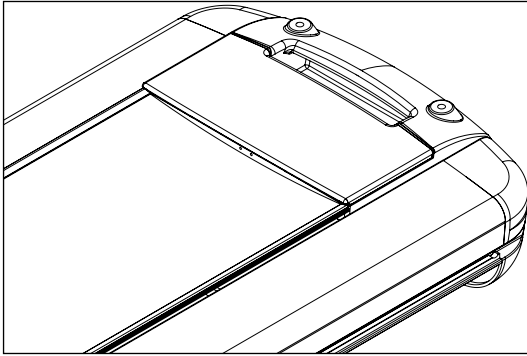
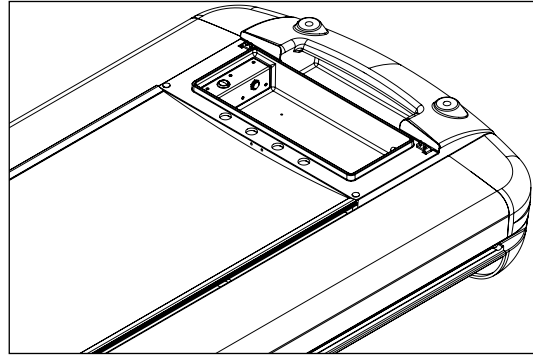

Fig. 1
Fig. 2
1. Open cradle back cover (Fig. 1 and Fig. 2).